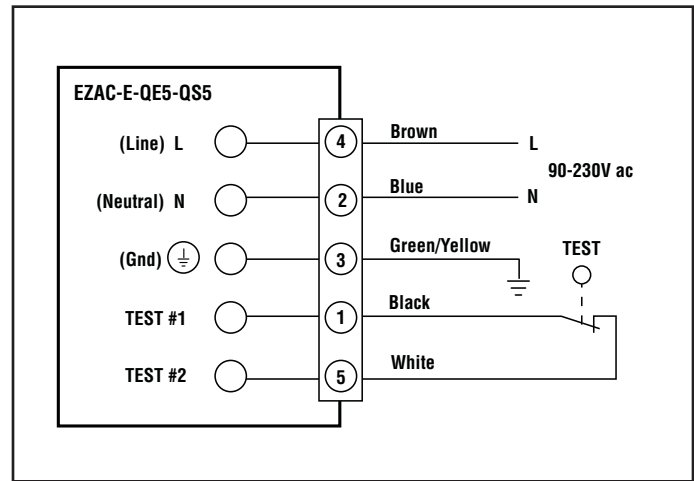

Figure 12. Hookup – model EZAC-E-QE5-QS5 (5-pin Mini-style QD)
- Model **EZAC-E-QE5-QS5**: 5-pin Mini-style connector for power, ground inputs, and test inputs (see Figure 12)